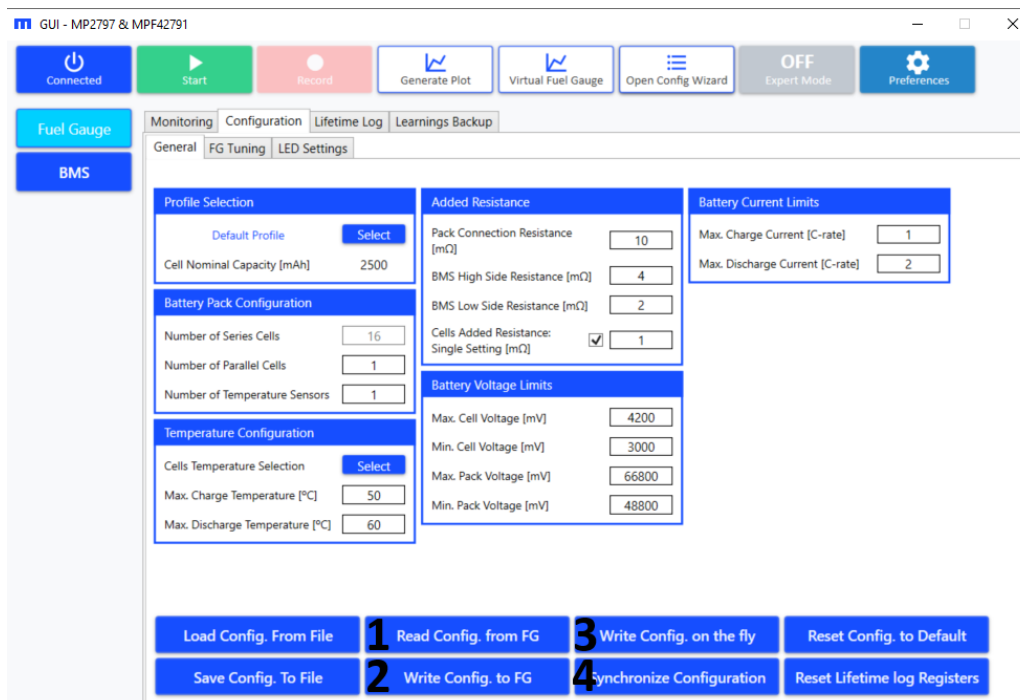

Figure 45: Fuel Gauge Configuration (Read and Write Buttons)
3. Click “Read Config. from FG” to read the configurations for the MPF4279x and overwrite the fuel gauge configurations of the GUI (denoted as “1” in Figure 45).
4. Click “Write Config. to FG” to write configurations stored in the GUI to both the non-volatile memory (NVM) and the volatile memory of the MPF4279x, and then trigger an FG reset (denoted as “2” in Figure 45).
5. Click “Write Config. on the fly” to write the configurations stored in the GUI to the volatile memory of the MPF4279x (denoted as “3” in Figure 45).
6. Click “Synchronize Configuration” to write the configuration registers in the MP4279x’s volatile memory to the NVM so that the changes are retained, even after a hard reset (denoted as “4” in Figure 45).